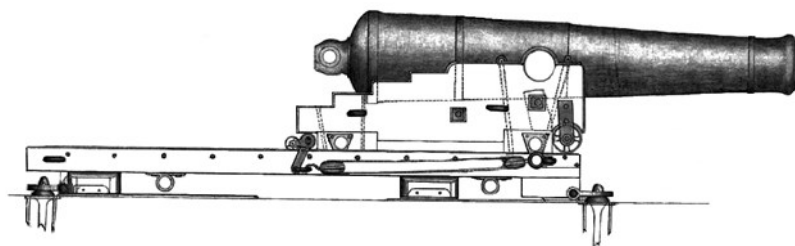

Figure 5 – Ferguson's Improved Gun Slide Carriage
This early design may have been to Mr. White's design but no information for such a carriage has been found. The Ferguson Improved Carriage, as depicted at Figure 5, appears to have been in common use with the Royal Navy (RN) before 1855.
The slide was used to traverse the gun using tackles fitted to eyebolts in the rails, fore and aft, and eyebolts fitted in the deck, possibly assisted with handspikes or levers. Captain W. Kemmis, 'A Treatise of Military Carriages' by (1874), suggests these eyebolts were located 15" from the after end of each rail; however, the Ferguson's patent drawing (Figure 5), has been used as the primary reference in establishing the position of the eyebolts and other gun furniture.